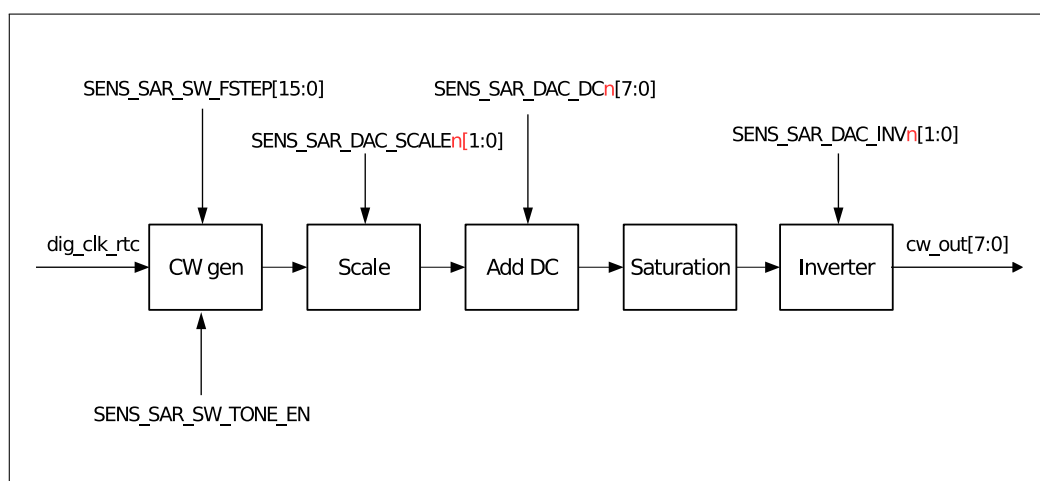

Figure 27-6. Workflow of CW Generator
The cosine wave (CW) generator can be used to generate a cosine or sine tone. Figure 27-6 shows The function of CW generator.